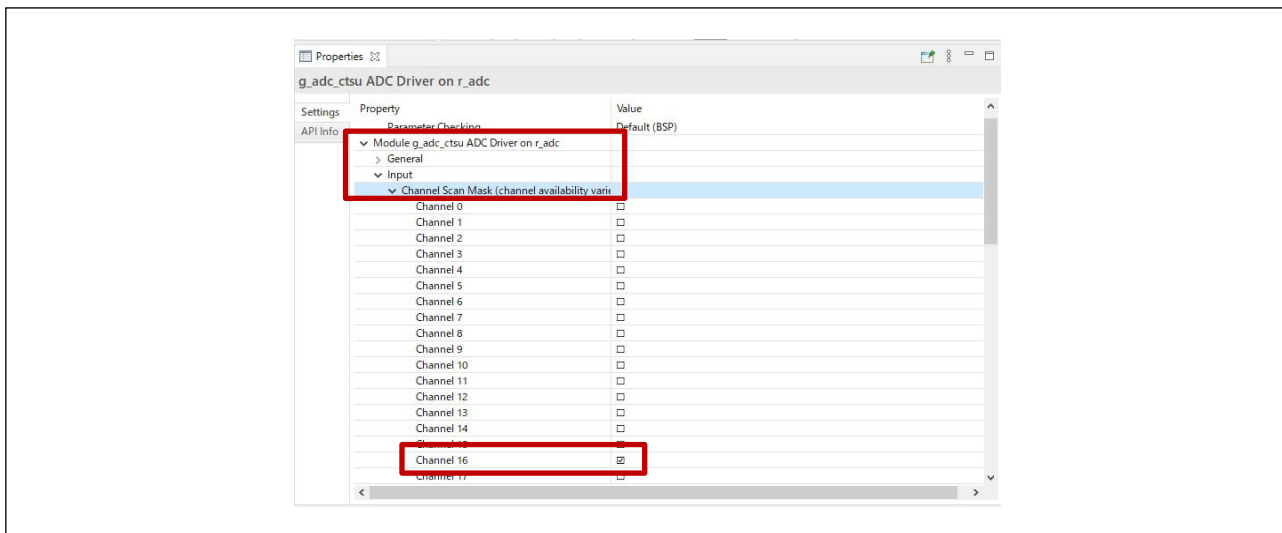

Figure 6.3 Select the “channel 16” checkbox in property of ADC
3) Select the channel 16 checkbox in the ADC properties of Channel Scan Mask (Figure 6.3).